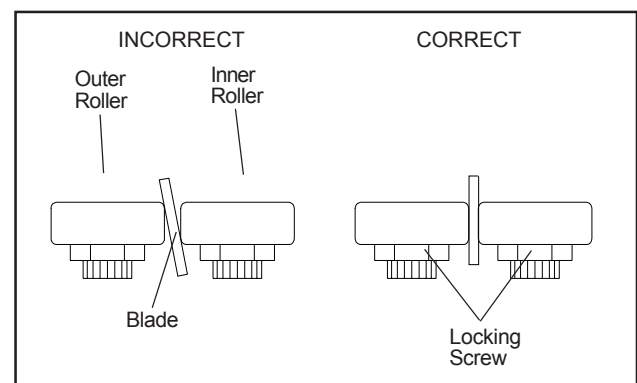

Figure 13: Blade-to-bearing orientation
4. Position the bearing by turning the bushing. Set the clearance at approximately 0.001 inch. (The blade should be in a vertical position between the bearings. (See figure 13.)